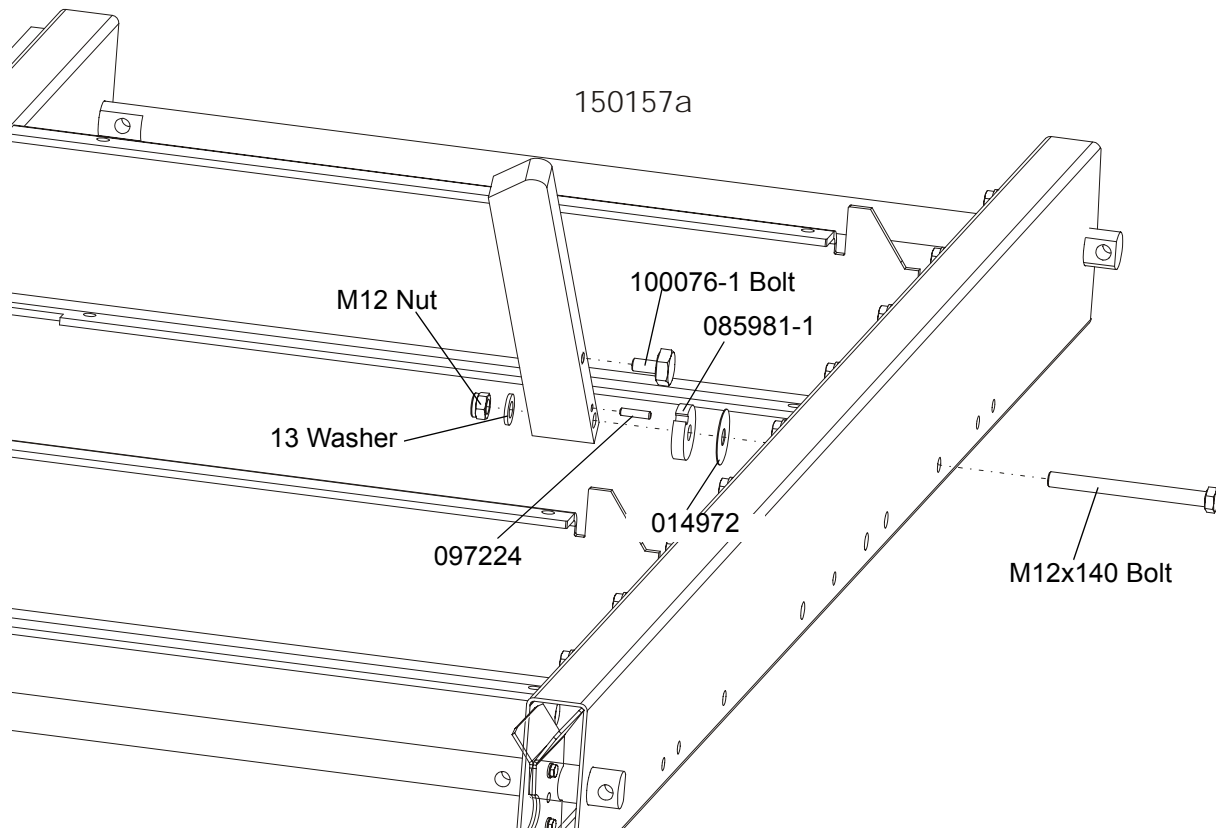

FIG. 3-8
9. Install the log side supports as shown in the Figure 3-8. Tighten the nuts so that the side supports can be moved with little resistance. Adjust the side supports. See Section 6.11 of the LT15 sawmill Operator's Manual.
See Figure 3-8.